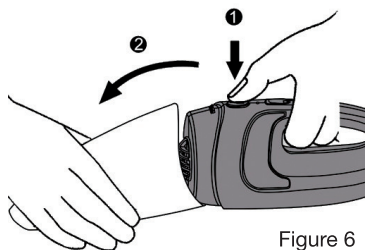

Figure 6
1. Press the button to open the container and separate it from the motor unit (Fig. 6).